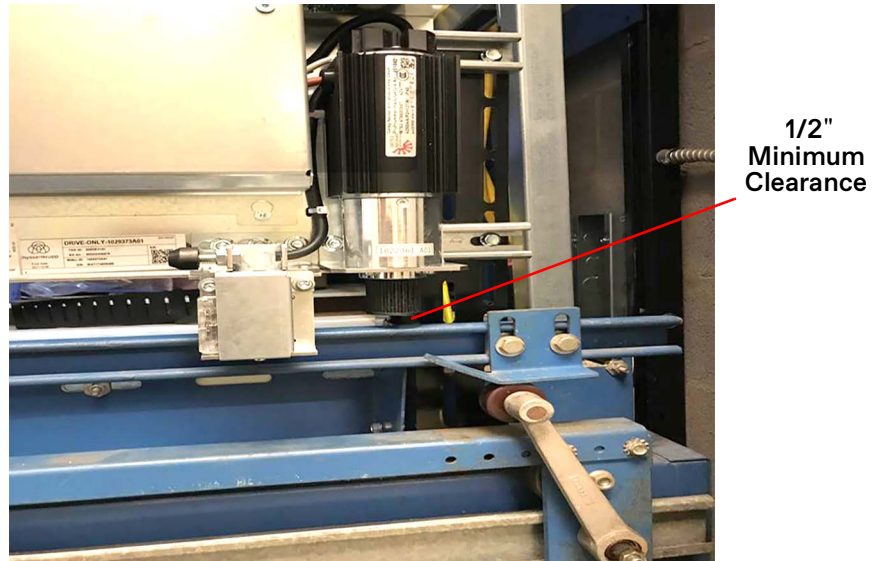

Figure 4 - Door Operator Drive Pulley Clearance
4. Verify that the door operator drive pulley will clear the car header or unistrut by a minimum of 1/2". To adjust, raise or lower the unistrut on the vertical support angles. See Figure 4.